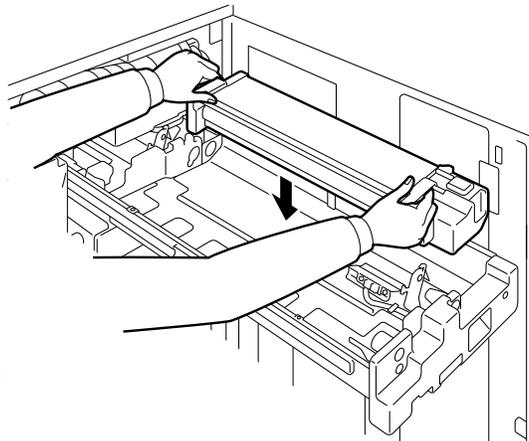

Figure 5-11
11. Re-install the developer unit into the EP Drawer as shown in Figure 5-11.